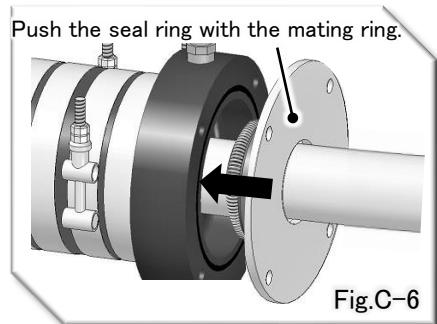

Fig.C-6
5. Push the seal ring with the mating ring. (See Fig.C-6)